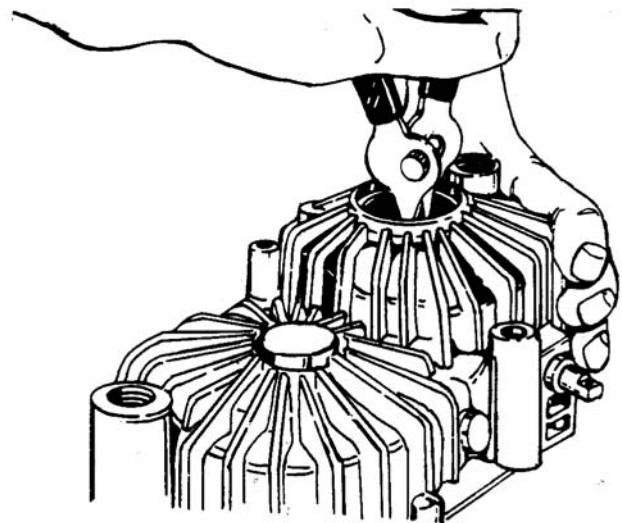

Figure 6-46. Installing Retaining Ring
- i. Install retaining ring in groove in housing. See Figure 6-46.